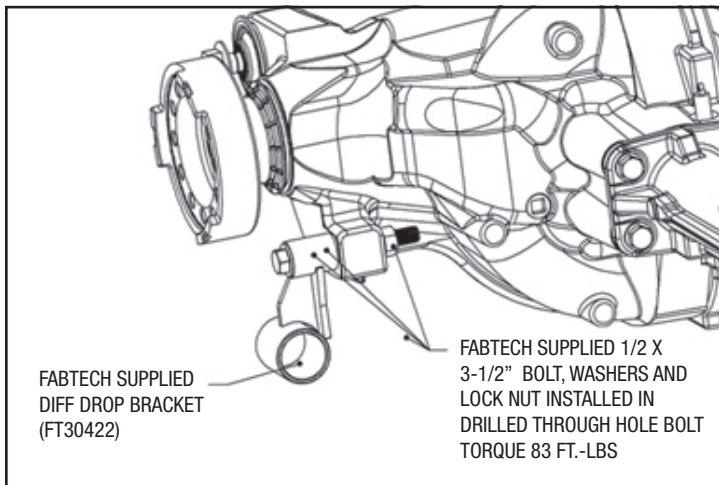

FIGURE 26 - STEP 29
29. Locate the supplied 1/2" - 13 x 3-1/2" bolt and install into the Rear Diff Mount passing all the way through the diff housing. Torque to 83 ft-lbs. **SEE FIGURE 26**